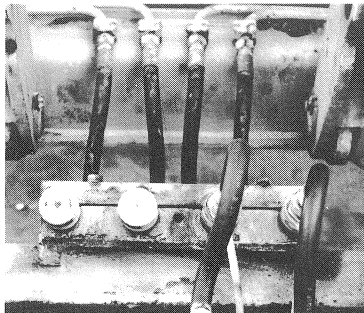

Fig. 26
- The rapid-action couplings are to be protected against contamination; screw on dust caps (Fig. 26).